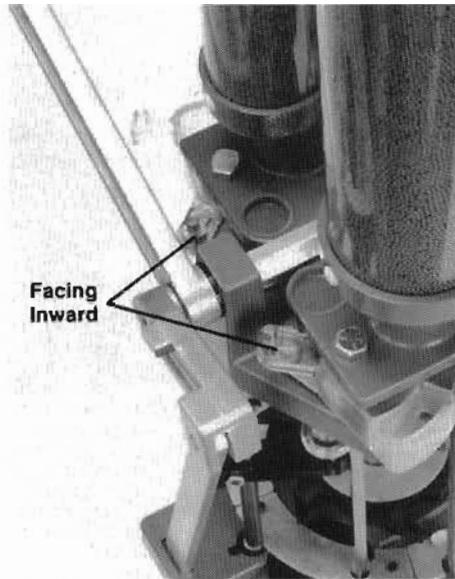

Fig. 74
**Figure 74** - Before you begin loading, the shot and powder charge bars need to be in the correct starting position. Both charge bars should be facing inwards towards the center of the Apex. This properly aligns the shell detects.